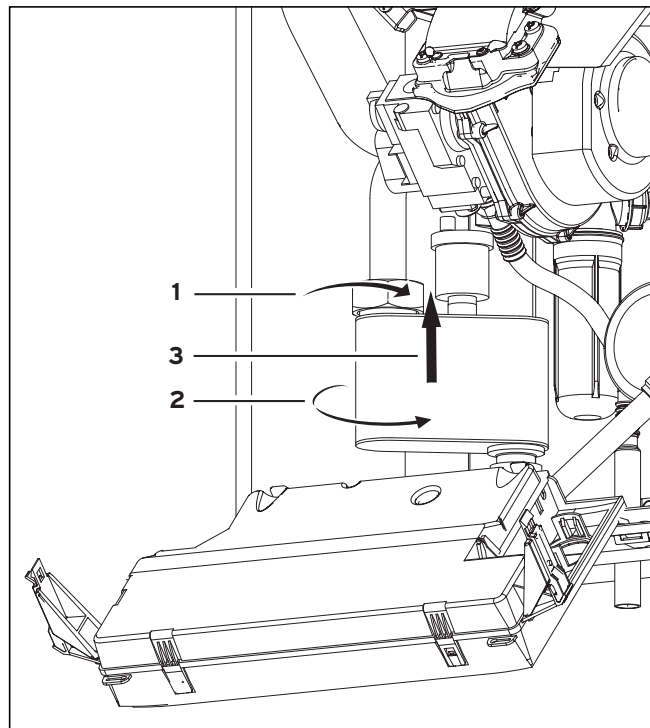

Fig. 7.6 Cleaning the air barrel
- Dismount the air barrel as shown in fig. 7.6 and rinse it with hot water.